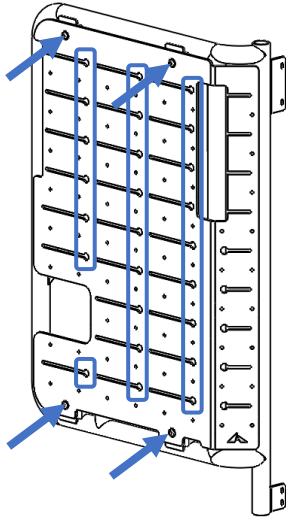

Figure 3: Tray Installation Locations with BackPACK
6. Slide two (2) 3/8" carriage bolts into each bike tray slot.
7. Install the bike rack trays onto the BackPACK using the carriage bolts through the indicated holes on the bike rack or BackPACK (see Figure 3). NOTE: The 3/8" bolt can only fit into the large hole at the end of each slot – please use the indicated locations only.
10. With the lower support arm of the bike tray extended to approximately parallel with the ground (as shown in Figure 3), slide the upper support bracket (on the back of the bike tray) up until taugt. Tighten the 3/8" hardware to secure upper support bracket in place.